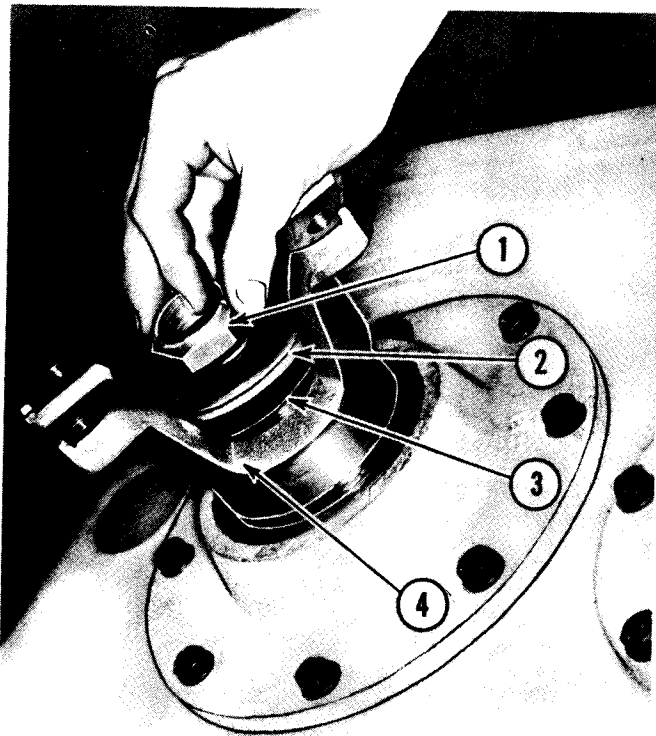

Figure 4-73
Install front output yoke (4, Fig. 4-73), gasket (3) and washer (2). Secure with nut (1). Tighten nut to recommended torque (refer to "SPECIAL TORQUES").